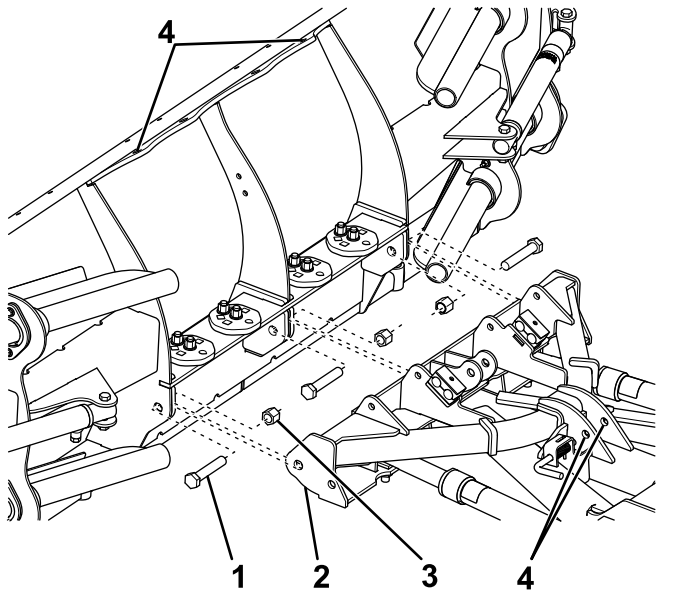

Figure 3
1. Attach the front of the push-frame assembly to the plow blade using 3 bolts (3/4 inch) and self-locking nuts (Figure 3).